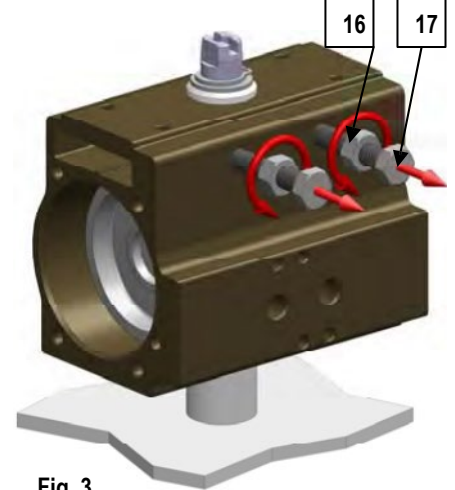

Fig. 3
7. Loosen nuts (16) and unscrew completely screws (17) (see Fig. 3).